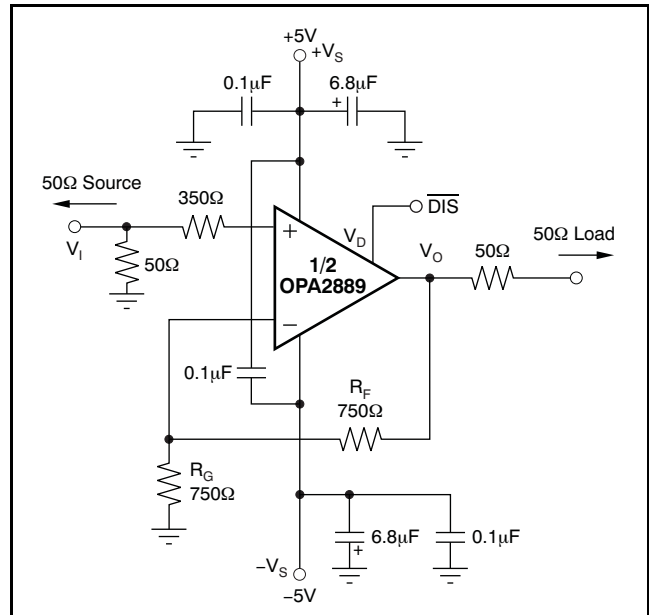
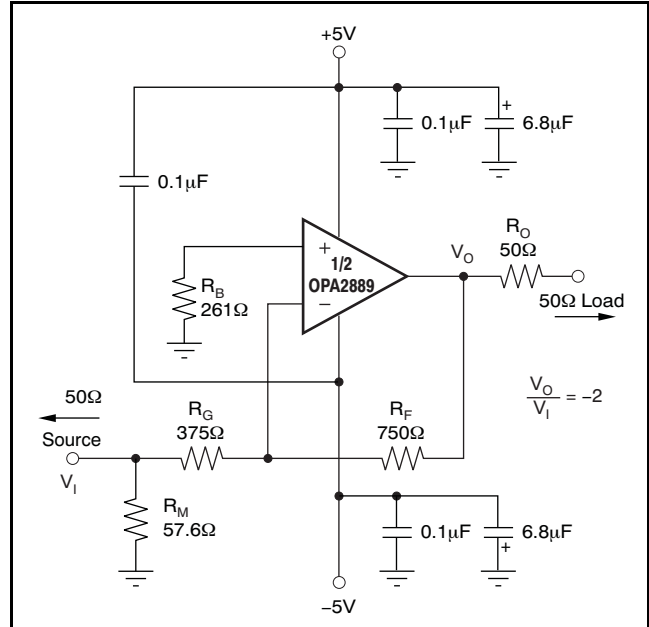

Figure 50. DC-Coupled, G = +2, Bipolar Supply, Specification and Test Circuit
Figure 60. Gain of $-2V/V$ Example Circuit
At $T_A = +25^\circ C$, $G = +2V/V$, $R_F = 750\Omega$, and $R_L = 100\Omega$, unless otherwise noted. See Figure 50.
Figure 50 shows the dc-coupled, gain of +2V/V, dual power-supply circuit configuration used as the basis of the ± 5 V Electrical Characteristics and ± 5 V Typical Characteristics. This illustration is for one channel; the other channel is connected similarly. For test purposes, the input impedance is set to 50 Ω with a resistor to ground and the output impedance is set to 100 Ω . Voltage swings reported in the Electrical Characteristics are taken directly at the input and output pins, while output powers (dBm) are at the matched 50 Ω load. For the circuit of Figure 50, the total effective load will be 100 Ω || 1.5k Ω . The disable control line (MSOP-10 package only) is typically left open for normal amplifier operation. Two optional components are included in Figure 50. An additional resistor (350 Ω) is included in series with the noninverting input. Combined with the 25 Ω dc source resistance looking back towards the signal generator, this resistor gives an input bias current cancelling resistance that matches the 375 Ω source resistance seen at the inverting input (see the DC Accuracy and Offset Control section). In addition to the usual power-supply decoupling capacitors to ground, a 0.1 μ F capacitor is included between the two power-supply pins. In practical printed circuit board (PCB) layouts, this optional-added capacitor typically improves the 2nd-harmonic distortion performance by 3dB to 6dB.
A good rule of thumb is to target the parallel combination of R_F and R_G (see Figure 50) to be less than approximately 400Ω. The combined impedance $R_F \parallel R_G$ interacts with the inverting input capacitance, placing an additional pole in the feedback network and thus, a zero in the forward response. Assuming a 2pF total parasitic on the inverting node, holding $R_F \parallel R_G < 400\Omega$ keeps this pole above 160MHz. By itself, this constraint implies that the feedback resistor R_F can increase to several kΩ at high gains. This increase in resistor size is acceptable as long as the pole formed by R_F and any parasitic capacitance appearing in parallel is kept out of the frequency range of interest.
Voltage-feedback op amps exhibit decreasing closed-loop bandwidth as the signal gain increases. In theory, this relationship is described by the Gain Bandwidth Product (GBP) shown in the Electrical Characteristics. Ideally, dividing GBP by the noninverting signal gain (also called the Noise Gain, or NG) predicts the closed-loop bandwidth. In practice, this principle only holds true when the phase margin approaches 90°, as it does in high gain configurations. At low gains (increased feedback factors), most amplifiers exhibit a more complex response with lower phase margin. The OPA2889 is compensated to give a slightly peaked response in a noninverting gain of 2V/V (see Figure 50). This compensation results in a typical gain of +2V/V bandwidth of 60MHz, far exceeding that predicted by dividing the 75MHz GBP by 2. Increasing the gain causes the phase margin to approach 90° and the bandwidth to more closely approach the predicted value of (GBP/NG). At a gain of +10, the 8MHz bandwidth shown in the Electrical Characteristics agrees closely with that predicted using the simple formula and the typical GBP of 75MHz.
The frequency response in a gain of +2V/V may be modified to achieve exceptional flatness simply by increasing the noise gain to 2.5V/V. One way to modify the response without affecting the +2V/V signal gain, is to add a 750Ω resistor across the two inputs, as shown in the circuit of Figure 50. A similar technique may be used to reduce peaking in unity-gain (voltage follower) applications. For example, by using a 750Ω feedback resistor along
The OPA2889 is a general-purpose, wideband, voltage-feedback op amp; therefore, all of the familiar op amp application circuits are available to the designer. Inverting operation is one of the more common requirements and offers several performance benefits. See Figure 60 for a typical inverting configuration where the I/O impedances and signal gain from Figure 50 are retained in an inverting circuit configuration.
In the inverting configuration, three key design considerations must be noted. The first is that the gain resistor (R_G) becomes part of the signal channel input impedance. If input impedance matching is desired (which is beneficial whenever the signal is coupled through a cable, twisted-pair, long PCB trace, or other transmission line conductor), R_G may be set equal to the required termination value and R_F adjusted to give the desired gain. This consideration is the simplest approach and results in optimum bandwidth and noise performance. However, at low inverting gains, the resultant feedback resistor value can present a significant load to the amplifier output. For an inverting gain of $-2V/V$, setting R_G to 50Ω for input matching eliminates the need for R_M but requires a 100Ω feedback resistor. This approach has the interesting advantage that the noise gain becomes equal to $2V/V$ for a 50Ω source impedance—the same as the noninverting circuits considered in Figure 60. The amplifier output, however, now sees the 100Ω feedback resistor in parallel with the external load. In general, the feedback resistor should be limited to the 200Ω to 1.5kΩ range. In this case, it is preferable to increase both the R_F and R_G values (see Figure 60), and then achieve the input matching impedance with a third resistor (R_M) to ground. The total input impedance becomes the parallel combination of R_G and R_M .
The second major consideration, touched on in the previous paragraph, is that the signal source impedance becomes part of the noise gain equation and influences the bandwidth. For the example in Figure 60, the R_M value combined in parallel with the external 50Ω source impedance yields an effective source driving impedance of $50\Omega \parallel 57.6\Omega = 26.7\Omega$. This impedance is added in series with R_G for calculating the noise gain (NG). The resulting NG is $2.86V/V$ for Figure 60, as opposed to only $2V/V$ if R_M could be eliminated as discussed above. Therefore, the bandwidth is slightly lower for the gain of $-2V/V$ circuit of Figure 60 than for the gain of $+2V/V$ circuit of Figure 50.
The third important consideration in inverting amplifier design is setting the bias current cancellation resistor on the noninverting input (R_B). If this resistor is set equal to the total dc resistance looking out of the inverting node, the output dc error, as a result of the input bias currents, is reduced to $(\text{Input Offset Current}) \times R_F$. If the 50Ω source impedance is dc-coupled in Figure 60, the total resistance to ground on the inverting input is 402Ω.
The OPA2889 provides good distortion performance into a 200Ω load on $\pm 5V$ supplies. Relative to alternative solutions, it provides exceptional performance into lighter loads and/or operating on a single +5V supply. Generally, until the fundamental signal reaches very high frequency or power levels, the 2nd-harmonic dominates the distortion with a negligible 3rd-harmonic component. Focusing then on the 2nd-harmonic, increasing the load impedance improves distortion directly. Remember that the total load includes the feedback network; in the noninverting configuration (see Figure 50), this total is the sum of $R_F + R_G$, while in the inverting configuration it is just R_F . Also, providing an additional supply-decoupling capacitor ($0.1\mu F$) between the supply pins (for bipolar operation) improves the 2nd-order distortion slightly (3dB to 6dB). Operating differentially also lowers 2nd-harmonic distortion terms (see the plot on the front page).
Evaluating these two equations for the OPA2889 circuit and component values (see Figure 50) gives a total output spot noise voltage of 18.2nV/√Hz and a total equivalent input spot noise voltage of 9.1nV/√Hz. This total includes the noise added by the bias current cancellation resistor (350Ω) on the noninverting input. This total input-referred spot noise voltage is slightly higher than the 8nV/√Hz specification for the op amp voltage noise alone. This result is the case as long as the impedances appearing at each op amp input are limited to the
previously recommend maximum value of 400Ω. Keeping both ($R_F \parallel R_G$) and the noninverting input source impedance less than 400Ω satisfies both noise and frequency response flatness considerations. Because the resistor-induced noise is relatively negligible, additional capacitive decoupling across the bias current cancellation resistor (R_B) for the inverting op amp configuration of Figure 60 is not required.
The balanced input stage of a wideband voltage-feedback op amp allows good output dc accuracy in a wide variety of applications. The power-supply current trim for the OPA2889 gives even tighter control than comparable amplifiers. Although the high-speed input stage does require relatively low $\pm 0.75\mu\text{A}$ input bias current, the close matching between them may be used to reduce the output dc error caused by this current. The total output offset voltage may be reduced by matching the dc source resistances appearing at the two inputs. This matching reduces the output dc error resulting from the input bias currents to the offset current times the feedback resistor. Evaluating the configuration of Figure 50, and using worst-case +25°C input offset voltage and current specifications, gives a worst-case output offset voltage equal to: